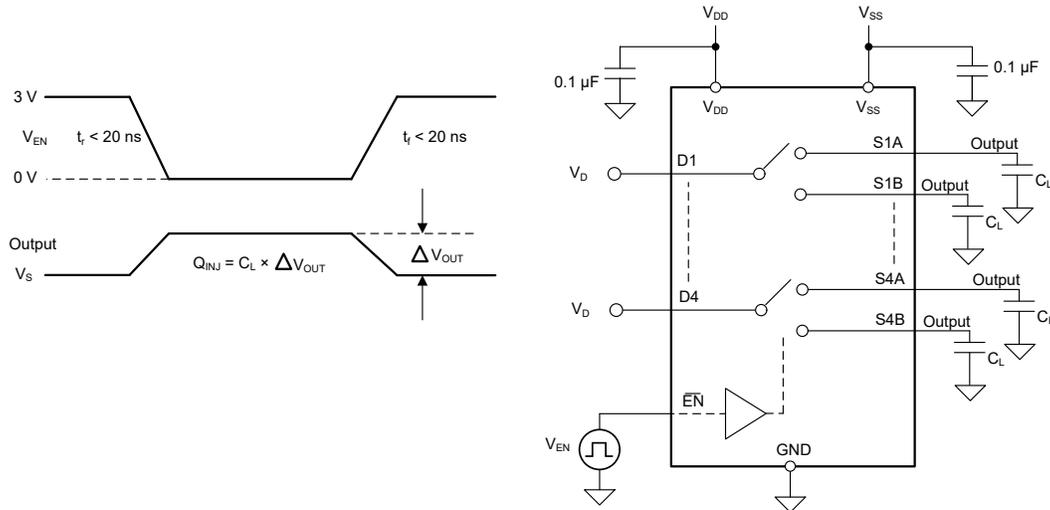

Figure 6-9. Charge-Injection Measurement Setup
The TMUX7234 has a transmission-gate topology. Any mismatch in capacitance between the NMOS and PMOS transistors results in a charge injected into the drain or source during the falling or rising edge of the gate signal. The amount of charge injected into the source or drain of the device is known as charge injection, and is denoted by the symbol Q_{INJ} . Figure 6-9 shows the setup used to measure charge injection from source (Sx) to drain (D).